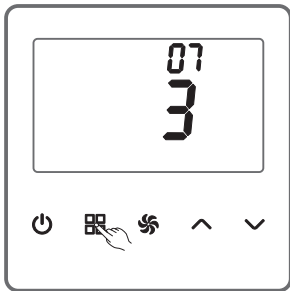

Figure 13
As shown in the Figure 13, on the parameter setting page, press  (MODE) to switch the option number to 07.  (UP) or  (DOWN) is provided to a switch between “1”, “2” and “3” (the three ranges).